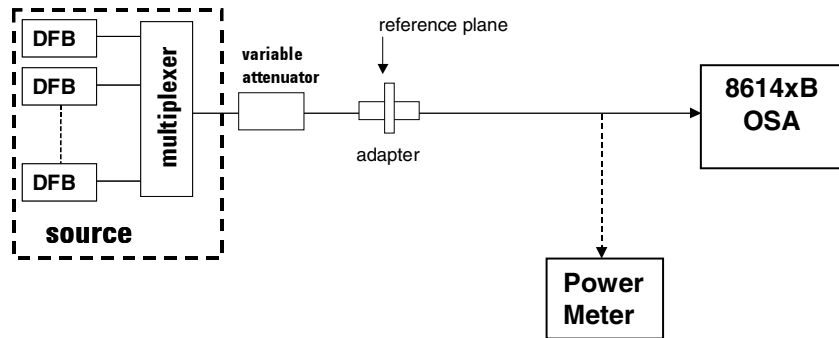

Figure 1-3. Reference Measurement
- 1 Connect the equipment as in Figure 1-3. Connect the source output and OSA input fibers at the reference plane.